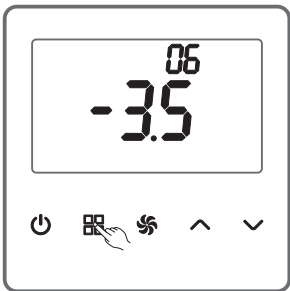

Figure 12
As shown in the Figure 12, on the parameter setting page, press $\square\square$ (MODE) to switch the option number to 06. \wedge (UP)